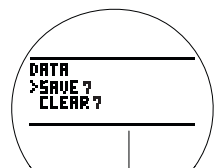

Fig. 114 - SELECT ITEM
- > During 24 hours after completion of a dive, the graphic DATA with selections SAVE ? and CLEAR ? will be displayed (Fig. 114) giving you the option to retain or delete settings and Ni-O2 calculations for repetitive dives.